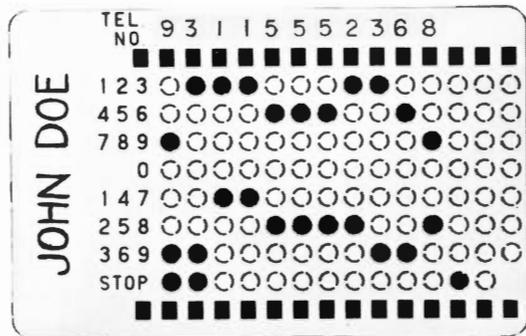

Fig. 4 - P-13E353 Card Coded for Access Code (9), Area Code (311), and 7-Digit Telephone Number (555-2368)
3.03 In certain PBX systems it is necessary to dial an access code to obtain central office dial tone. To prepare a card for dialing an access code (Fig. 4 and 6):